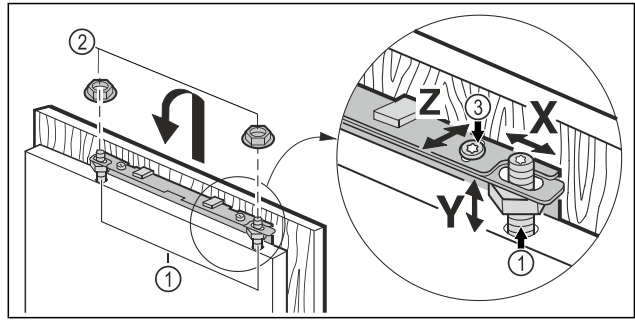

Fig. 46
- Hook the unit door onto the adjustment bolts Fig. 46 (1) and screw the lock nuts Fig. 46 (2) loosely onto the adjustment bolts.
- Align the unit door in height  $Y$  and in the lateral inclination: Adjust the adjustment bolt Fig. 46 (1) with a screwdriver.
- Tighten the lock nuts Fig. 46 (3).